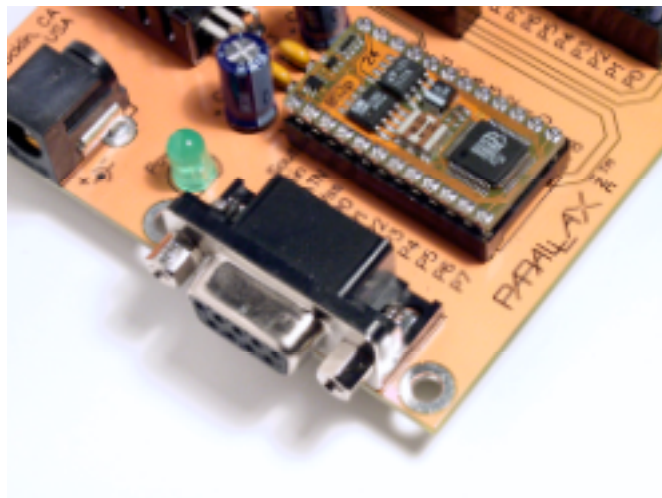
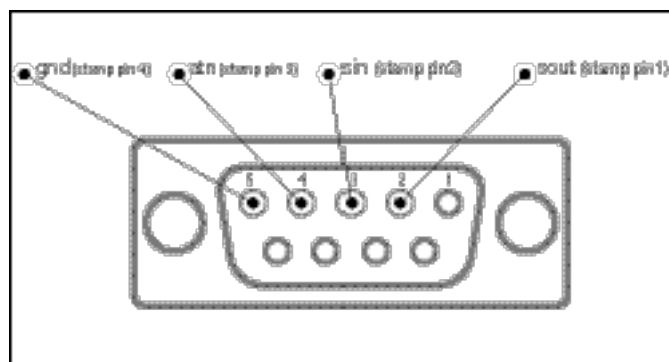

Figure 7: Your BasicStamp programming board has a female DB9 connector...
Figure 9: A diagram of the rear, soldering side of the DB9 plug.
- Secondly, we figure out which pins of the DB9 male plug match the relevant pins. Plug the loose DB9 male connector into the DB9 female connector on your BasicStamp board so that we can measure directly on the soldering side of the male DB 9 plug (Figure 7 and 8). With a multimeter, work out which pins of the DB9 plug are connected to pin 1 (sout), pin 2 (sin), and pin 4 (gnd) of the BasicStamp. Pin 3 (atn) is a bit of strange case as it is not possible to measure continuity between pin 3 on the BasicStamp and any pin on the DB9 plug. Still, even though continuity cannot be measured, pin 3 of the Stamp is connected to a pin on the DB9 plug in between gnd and sin. Looking at the soldering side of the DB9 plug, the connections are shown diagrammatically in Figure 9. You can refer back to Table 1 if you get stuck.